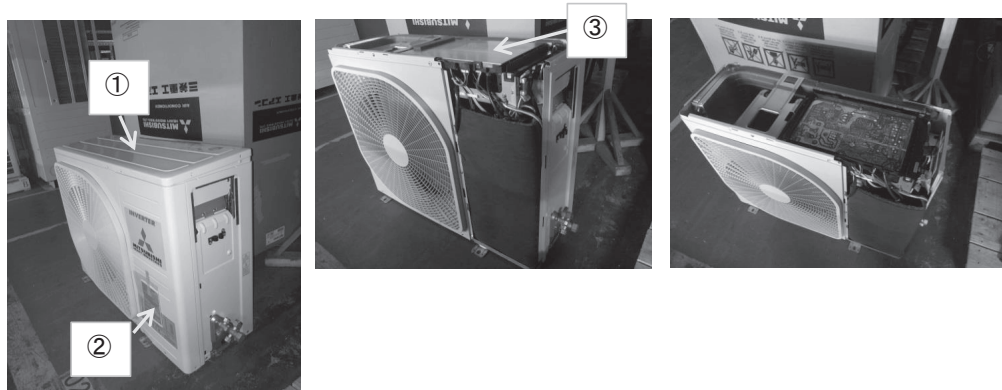

Fig.1 Outdoor unit
- 3) Detach a service panel.(Fig.1 ②)
- 4) Detach a top panel of control box.(Fig.1 ③)